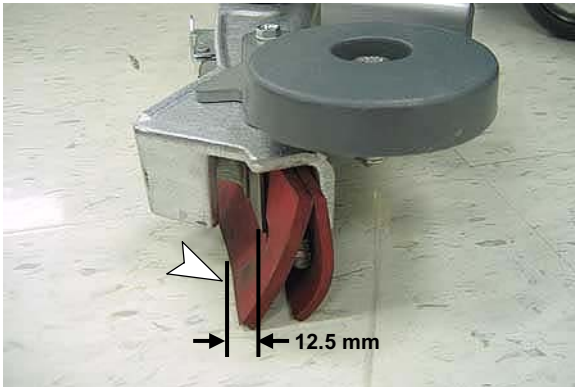

FIG. 6
6. Check the squeegee blades for proper deflection. The blades should deflect as shown (Figure 6).